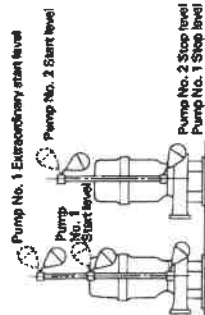

Fig. 8
- Check automatic alternate operation of pump No. 1 (DVS-J) and pump No. 2 (DVS-A) as follows (see Fig. 8).
- (1) When the water level reaches pump No. 1 start level, pump No. 1 will start and water will be pumped until pump No. 1 stop water level is reached.